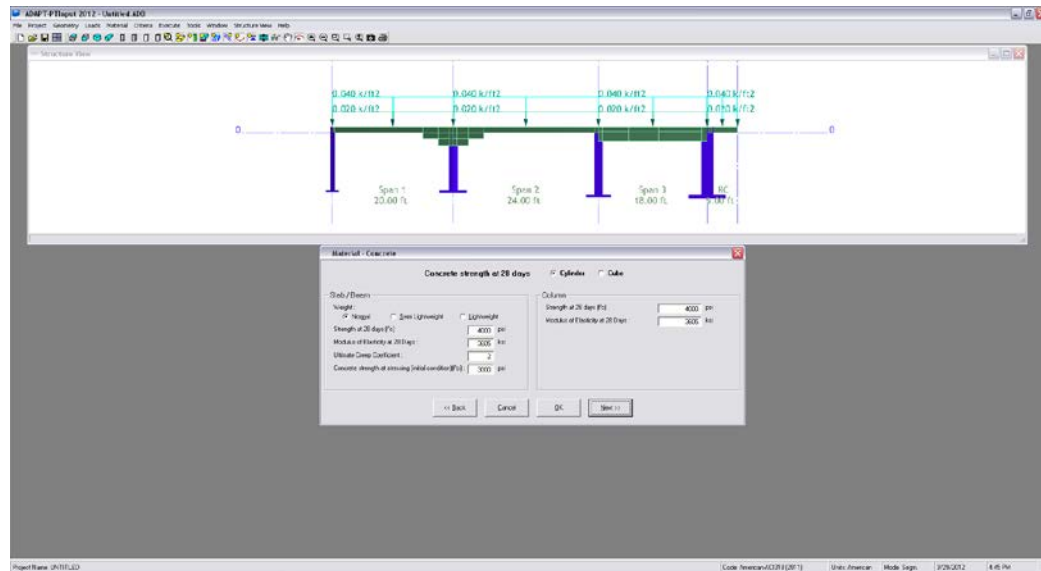

FIGURE 5.3-18
5.3.4.1 Enter The Properties Of Concrete (Fig. 5.3-18)